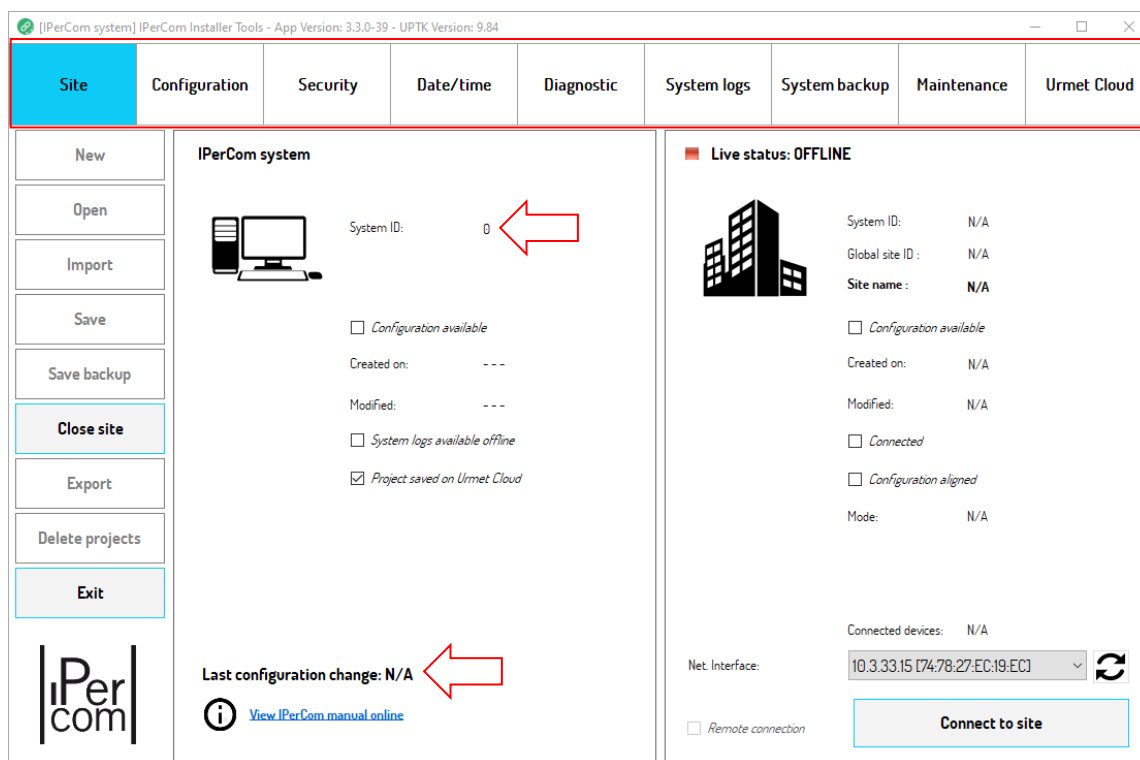

Figure 112: project created ("Site" tab)
**At this stage the name of the project displayed at the top of the left panel of *IPerCom Installer Tools* (see Figure 112) is replaced by the name of the site, as this field is available (it was filled in following the creation and saving of the configuration).**